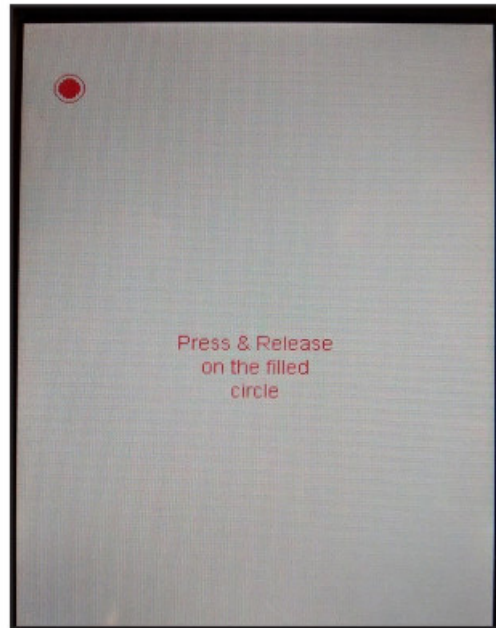

Figure 9 Touch and Release
2. Touch screen to continue. See Figure 9.